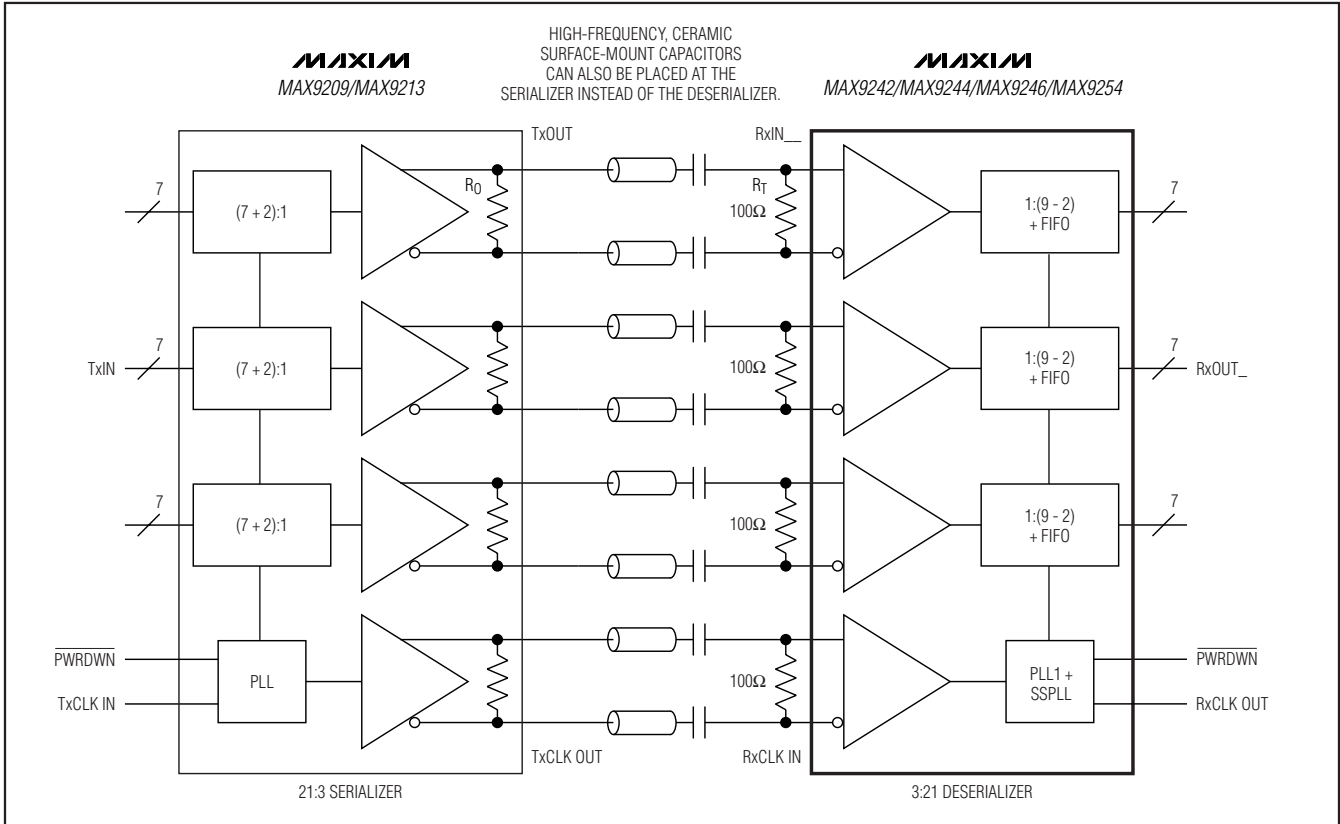
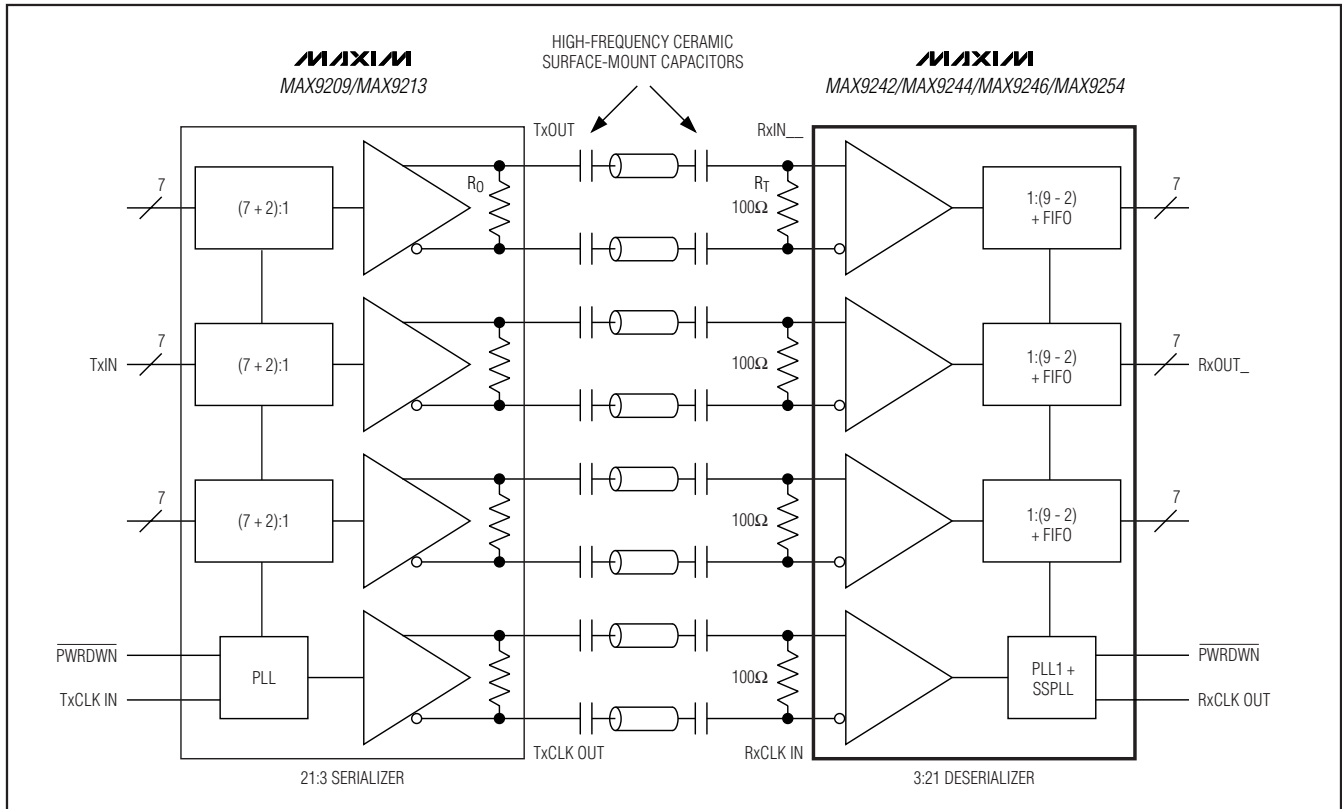

Figure 19. Two Capacitors per Link, AC-Coupled, DC-Balanced Mode
Figure 20. Four Capacitors per Link, AC-Coupled, DC-Balanced Mode
The RC network for an AC-coupled link consists of the LVDS receiver termination resistor (R_T), the LVDS driver output resistor (R_O), and the series AC-coupling capacitors (C). The RC time constant for two equal-value series capacitors is $(C \times (R_T + R_O)) / 2$ (Figure 19). The RC time constant for four equal-value series capacitors is $(C \times (R_T + R_O)) / 4$ (Figure 20).
Equation 1 is for two series capacitors (Figure 19). The bit time (t_B) is the period of the parallel clock divided by 9.
The DSV is 10. See equation 3 for four series capacitors (Figure 20).
Equation 1 altered for four series capacitors (Figure 20) is: